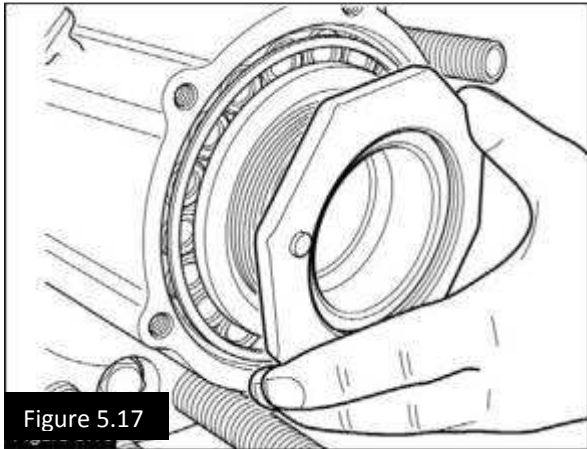

Figure 5.17
8. Fit the hub lock nut, and tighten using a suitable size socket (3/4" drive recommended), until the nut abuts the bearing cone. Figure 5.17.